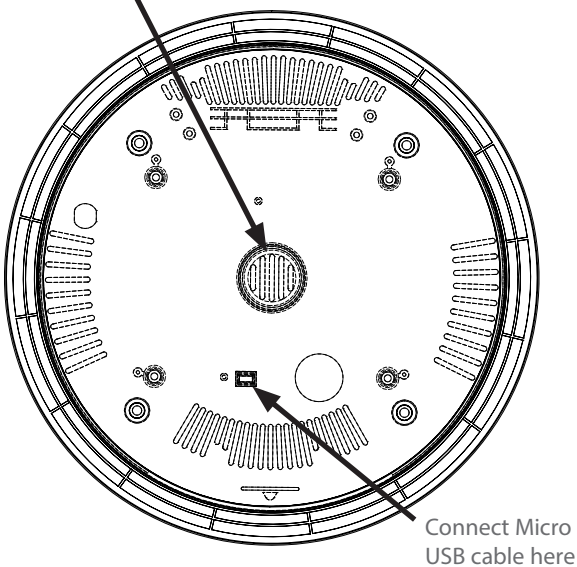

Figure 7: Micro USB Connector
**CAUTION:** The SinAqua™ Souper™ is designed to operate without water and does not employ steam to heat food. If water is allowed to enter the chamber wherein the tureen is placed, whether by way of operational error or for cleaning purposes, the water will drain below the Souper™ unit (see Figure 7, page 4).
1. Connect the Micro USB cable to the Souper unit (Figure 7, below).
**CAUTION:** The SinAqua™ Souper™ is designed to operate without water and does not employ steam to heat food. If water is allowed to enter the chamber wherein the tureen is placed, whether by way of operational error or for cleaning purposes, the water will drain below the Souper™ unit (see Figure 7, below). When installing the drop-in Souper™ unit, plan accordingly.